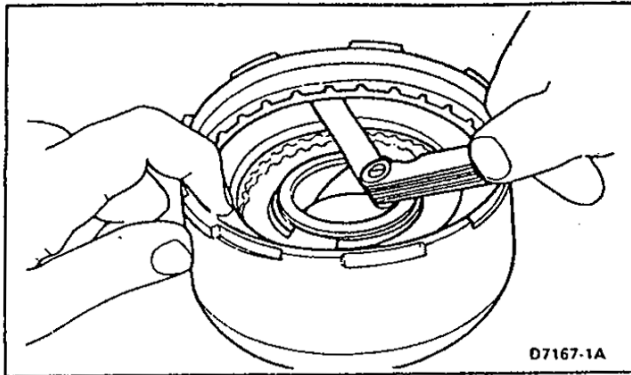

FIG. 46 Checking Reverse-High Clutch Snap Ring Clearance:
8. With a feeler gauge, check the clearance between the pressure plate and snap ring (Fig. 46).